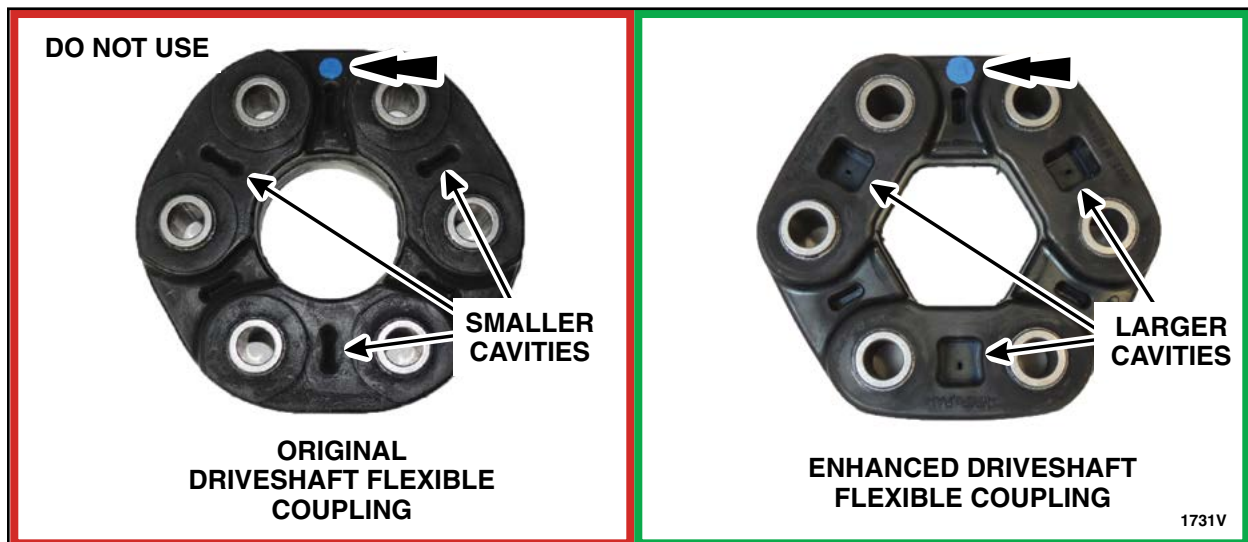

FIGURE 2
- The blue paint marking on the *new* driveshaft flexible coupling must be installed facing the transmission output flange or premature failure of the flexible coupling will occur. See Figure 2.